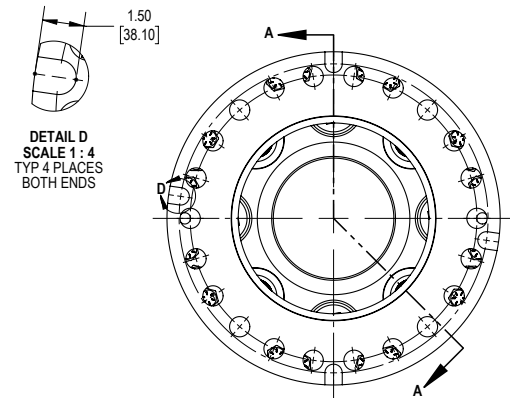

Figure 2: Detail D Shows Adapter Key
Removal of the coupling from the equipment begins with removing the center member assembly from the end adapters. Start by supporting the center member assembly using lifting straps around the center member, then remove the (48) hex-head cap screws that connect the end adapters to the center member assembly. Next use the (8) collapsing bolts to pull the center member adapters (BOM item 3) towards the center member to clear the center member adapters from the piloted end adapters (BOM items 7 and 9) which will free the center member assembly. Lastly, to remove the end adapters from the connected equipment flanges, each end adapter is supplied with four key slots on each adapter to use as a pry location to push the adapter free from the mating equipment end flanges. Figure 2 shows the location and detail of the key slots.